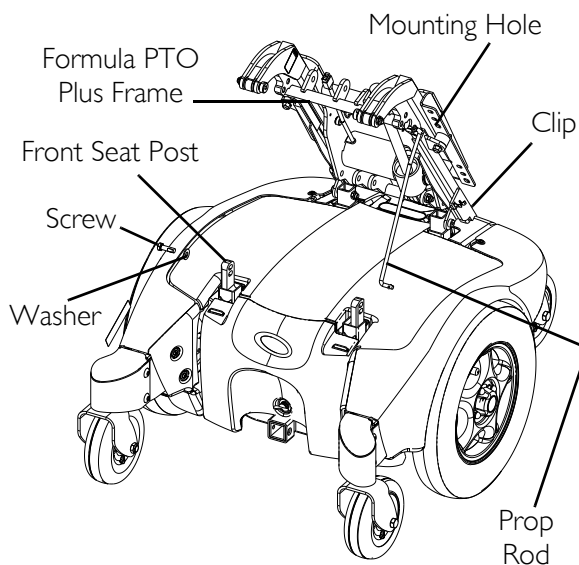

FIGURE 6.2 Tilting the Seat Assembly
NOTE: For this procedure, refer to FIGURE 6.2 on page 48.
8. Remove prop rod from the clip located on the Formula PTO Plus frame and engage the prop rod end into the front seat post as shown in FIGURE 6.2.